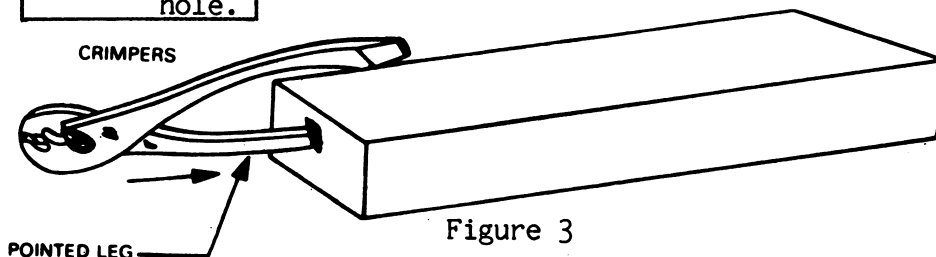

Figure 3
3. To prime a demolition block without a threaded cap well (fig. 3).